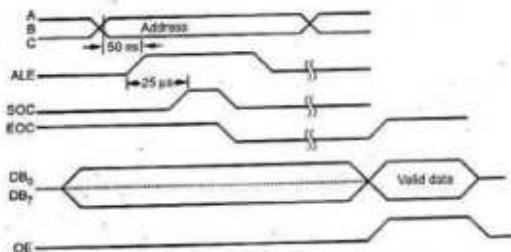

Fig. 6.11.2 Timing waveforms for ADC 0808
- The microprocessor system can read converted digital word through data bus by enabling the output enable signal after EOC is activated. This is illustrated in Fig. 6.11.2.